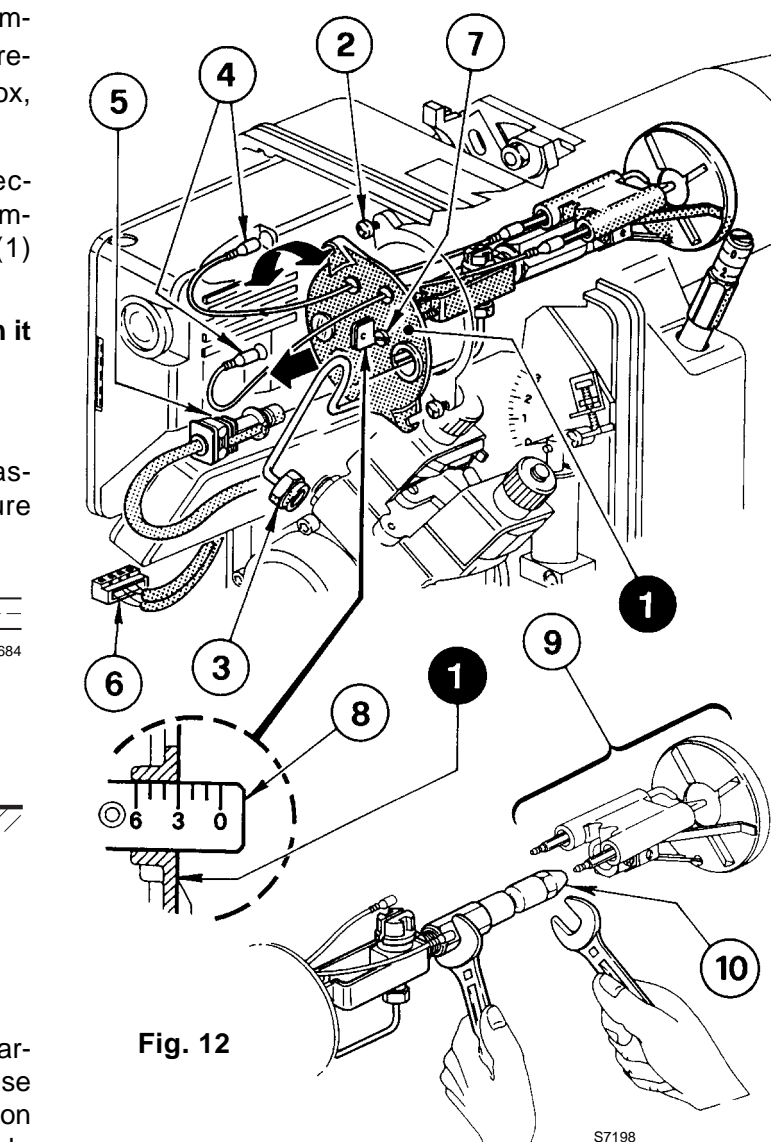

Fig. 12
**B Fig. 12** – Remove nozzle-holder assembly (1) after loosening screws (2) and nut (3), remove the small cables (4) from the control box, the photoresistance (5) and the socket (6).
## 2 COMBUSTION HEAD SETTING (see fig. 12)